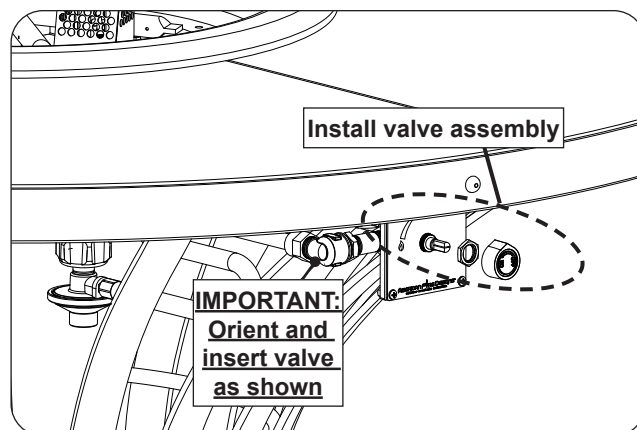

Fig. 29-4 Install valve assembly
7. Insert the valve assembly through the plate (in the base). Replace the nut onto the valve stem, and tighten. Reinstall the control knob. See Fig. 29-4.
**Important:** Handle with care to prevent damage to the thermocouple and gas connections. Ensure the valve is oriented and inserted in the manner shown. See Fig. 29-4.